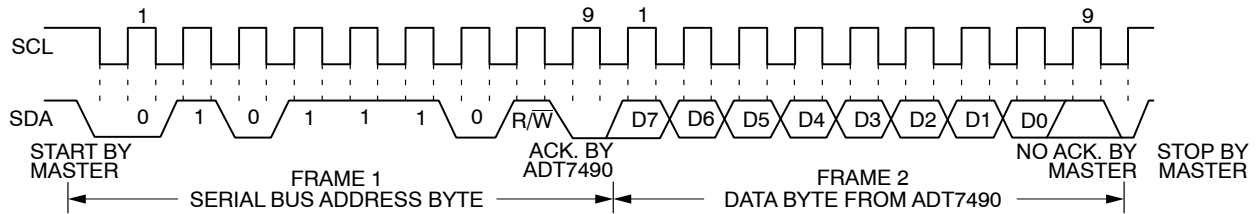

Figure 20. Reading Data from a Previously Selected Register
A read operation is then performed consisting of the serial bus address, R/\overline{W} bit set to 1, followed by the data byte read from the data register. This is shown in Figure 20.
2. If the address pointer register is known to be already at the desired address, data can be read from the corresponding data register without first writing to the address pointer register, as shown in Figure 20.